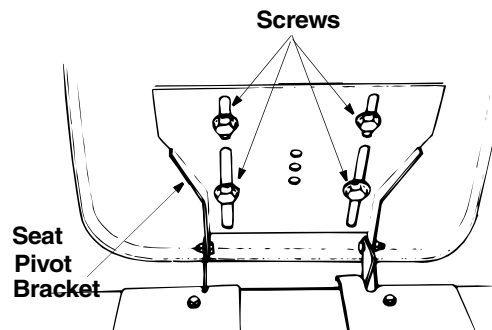

Figure 3
- Remove the four screws which secure the seat to the seat pivot bracket. See Figure 3 . Turn the seat around and place it in position against the seat pivot bracket, lining up the slotted holes in the pivot bracket with the holes in the seat. Select desired position for the seat, and secure with the four screws removed earlier.